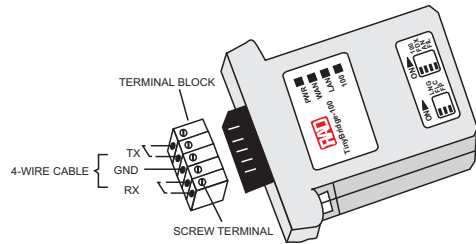

Figure 7. Connecting the 4-wire WAN Interface
3. Feed the 4-wire cable through the protective cover and connect the Tx and Rx wires to their respective terminals, as illustrated in *Figure 7*. If the cable is shielded, connect the shield to the GND terminal.